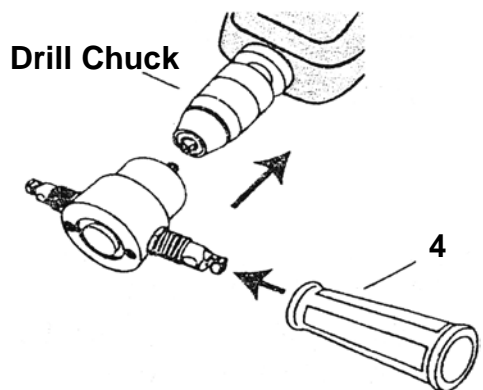

Fig. 2
3. Screw the handle (4) on the unused cutting shaft holder and connect the drive shaft (1) with the drill chuck of your electric drill (fig. 2) (do not jam!).
4. Install the deflector (10) in the groove (3).
5. Firmly hold the electric drill with one hand and the handle (4) with the other hand.